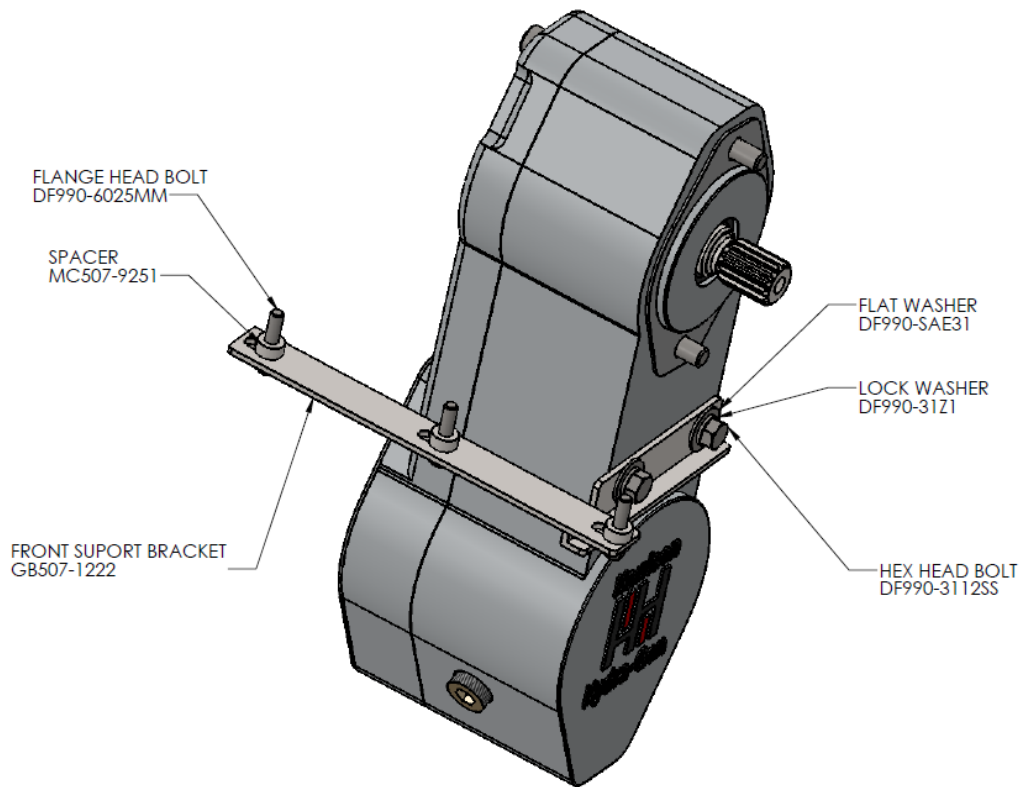

Figure 3
1. Next install the front support bracket # GB507-1222 see figure 3.